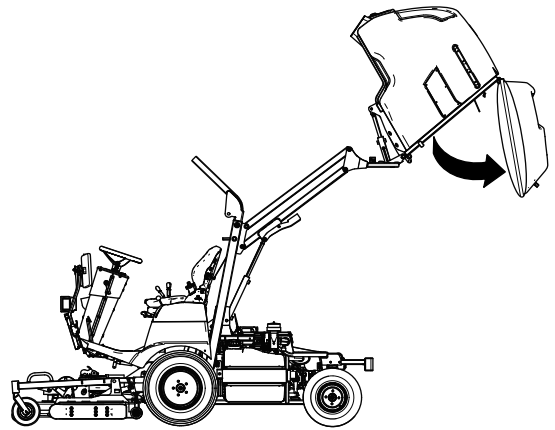

Figure 140
2. Raise the hopper (Figure 140) to the full height position; refer to Raising the Hopper (page 32).
3. Dump the hopper (Figure 140) and leave it in the full dumped position, with the rear door hanging freely; refer to Dumping the Hopper (page 33).